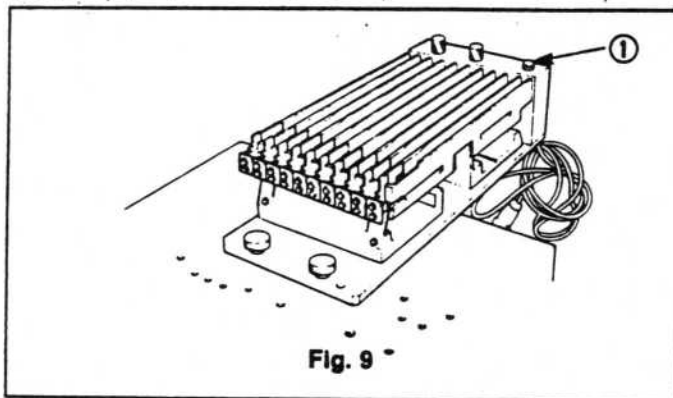

Fig. 9
(1) Grip and pull off the switch button (①) (see Fig. 9).
(2) Press in the replacement switch button.